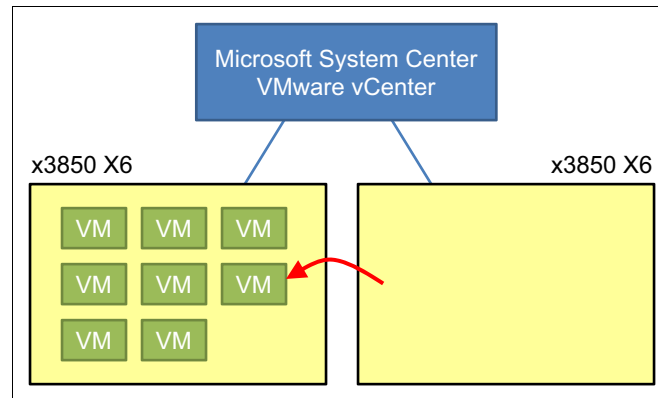

Figure 7-23 UIM move VMs from the next server
- Any running VMs are moved from the next server that is to be updated to another server, as shown in Figure 7-23.